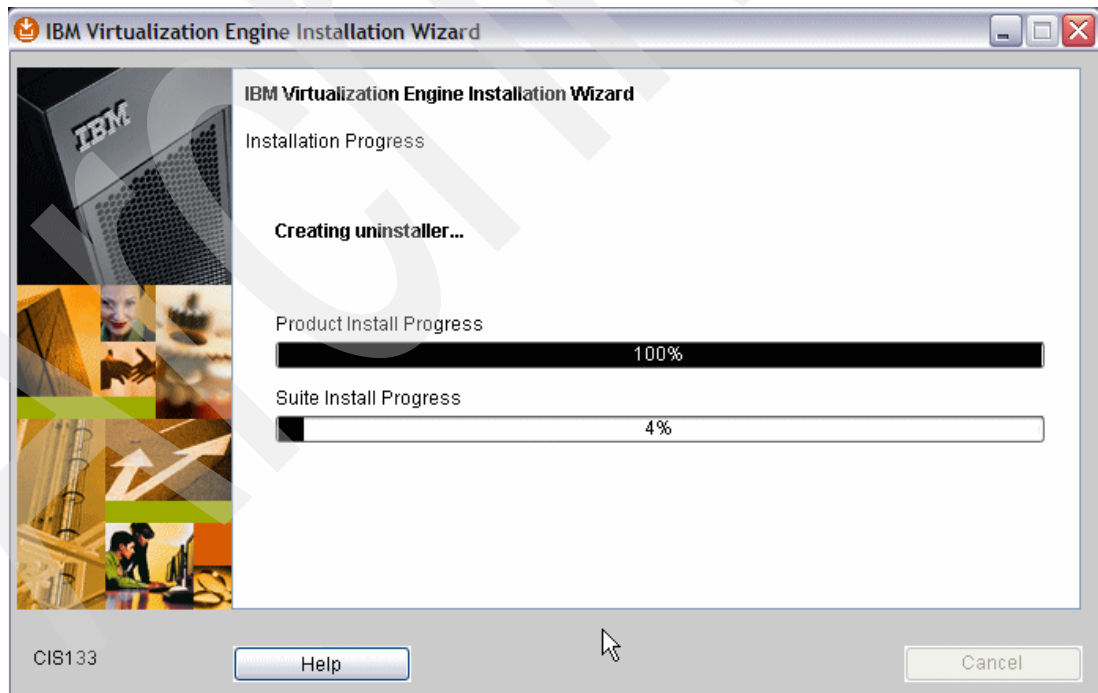

Figure 5-23 Installation progress window uninstaller IBM Virtualization Engine Base Support
18. An Installation Progress window (Figure 5-23) opens to indicate the installation progress of creating the uninstaller for IBM Virtualization Engine.